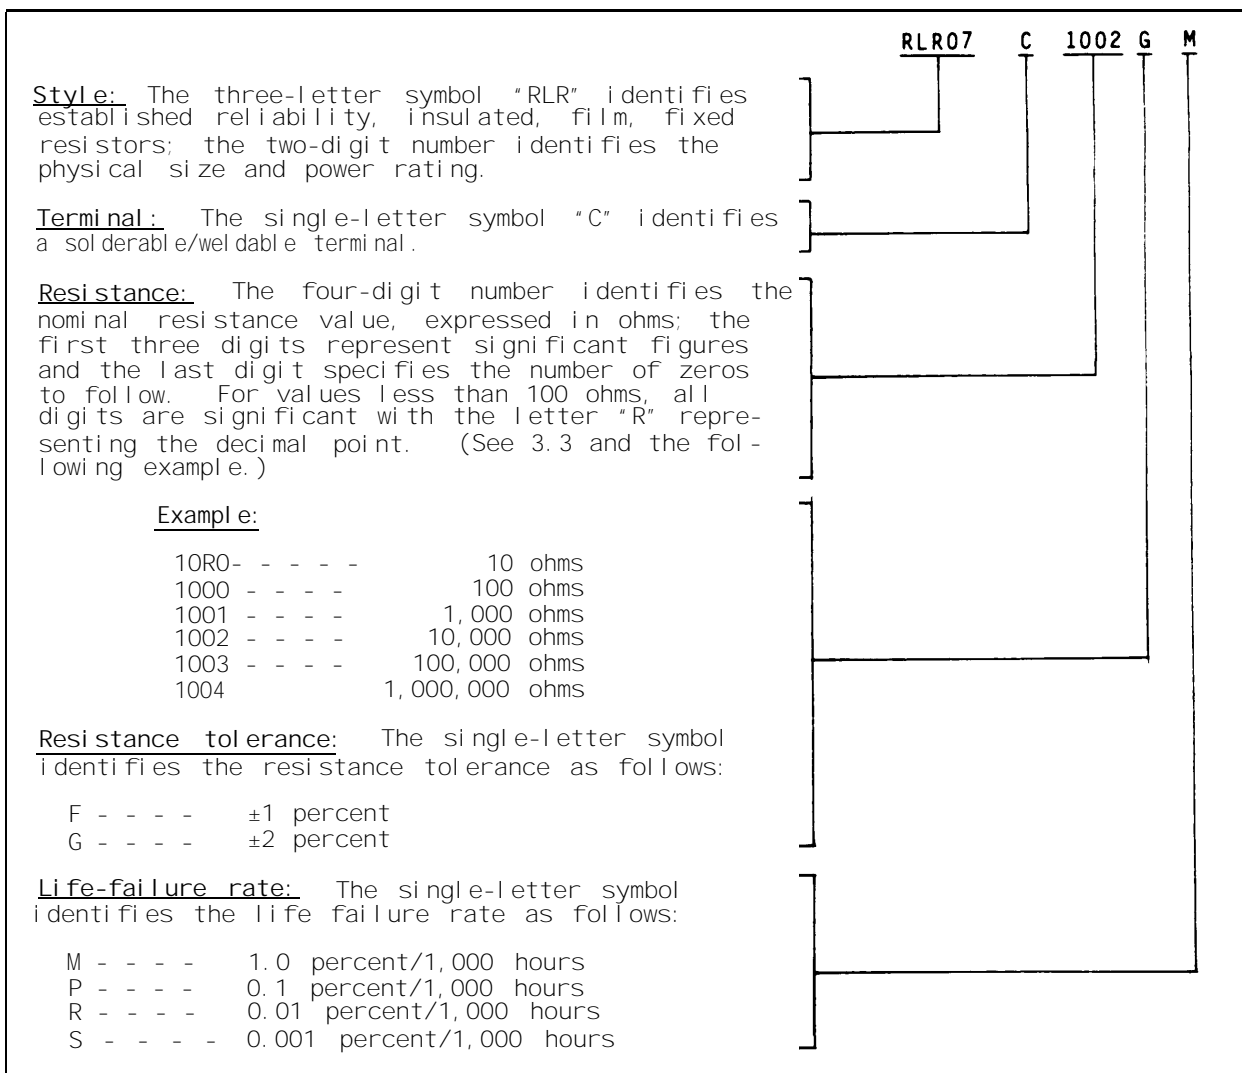

FIGURE 305-3. Type designation example.
3. ITEM IDENTIFICATION (see figures 305-3 and 305-4).
3.1 Type designation. The type designation is used for identifying and describing the resistor as shown on figure 305-3.